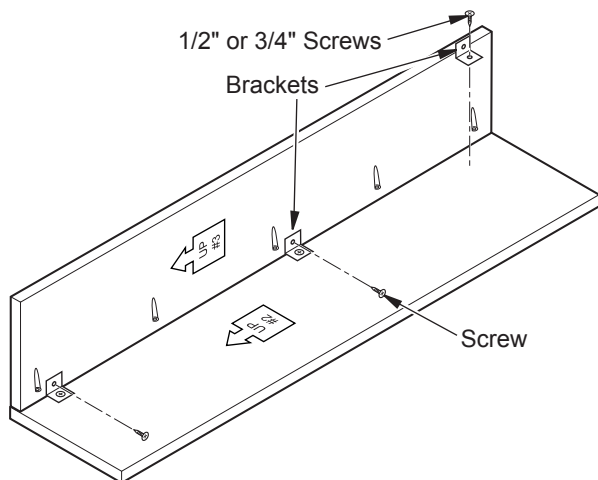

Figure 2 - Attaching Brackets
4. Each leg assembly will use 3 brackets for stability. Your bracket hardware kit will contain either 1/2" or 3/4" screws. Using two 1/2" or 3/4" screws, install a bracket in the center of each leg assembly and one at each end within 1" of but not over the last pocket hole (see Figure 2, page 2).